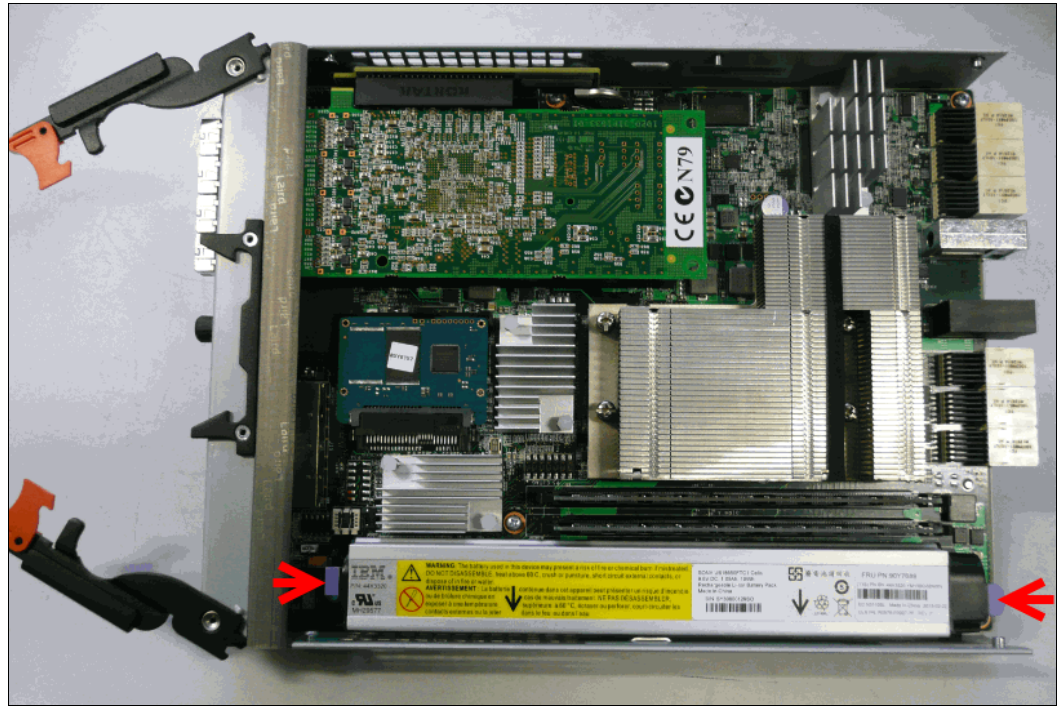

Figure 11-12 BBU replacement: Step 1
1. Grasp the blue touch points on each end of the battery, as shown in Figure 11-12.